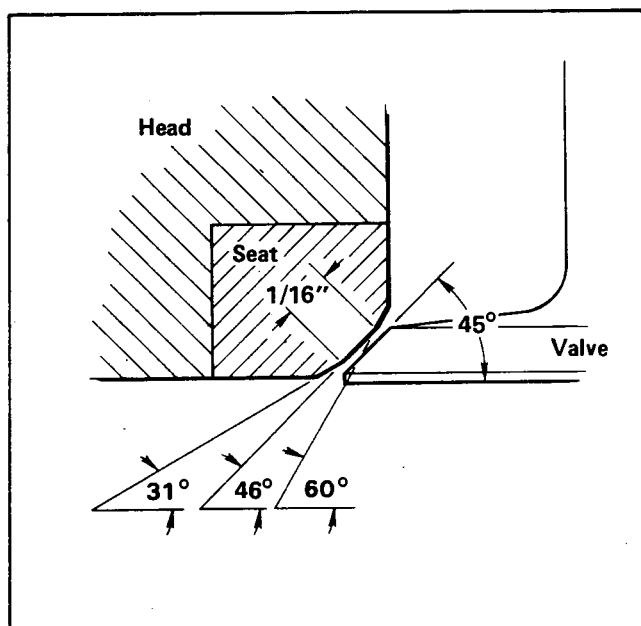

Figure 1. Valve Seat Angles - Late 1980 and Later
2. See Figure 1. Cut 46° seat angle first. Cut only enough to clean up the seat.
- Figure 1. Valve Seat Angles - Late 1980 and Later**